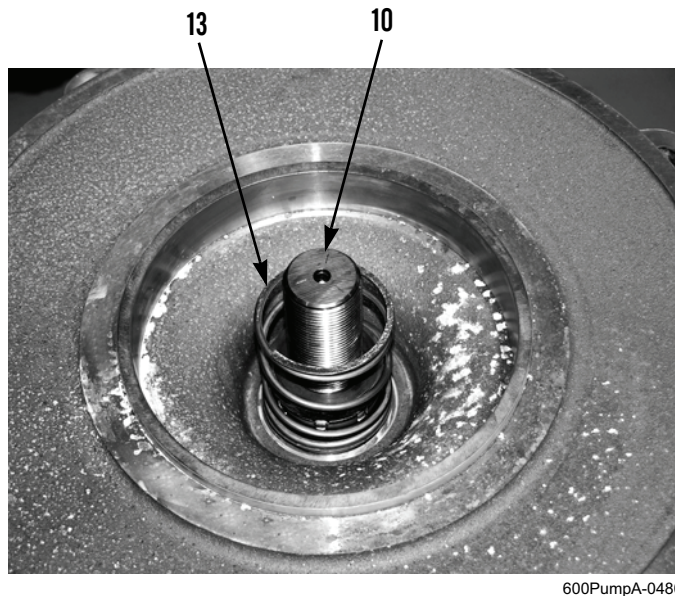

Figure 5. Seal Spring.
8. Remove seal spring (Figure 5, Item 13) from impeller shaft (Figure 5, Item 10). Discard seal spring.